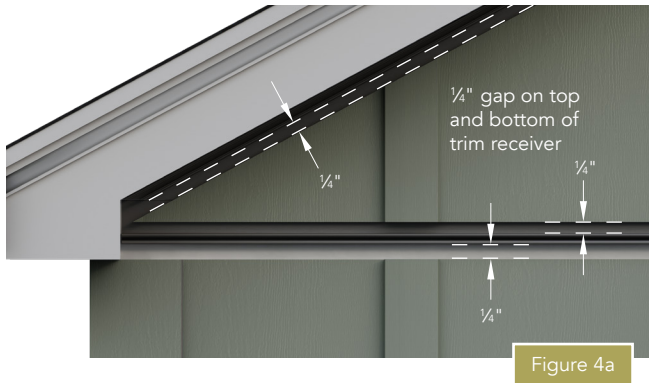

Figure 4a
- To accommodate expansion and contraction, always leave a $\frac{1}{4}$ " gap between the siding panel and the inner wall of all pocketed trim (Figure 4a/b).